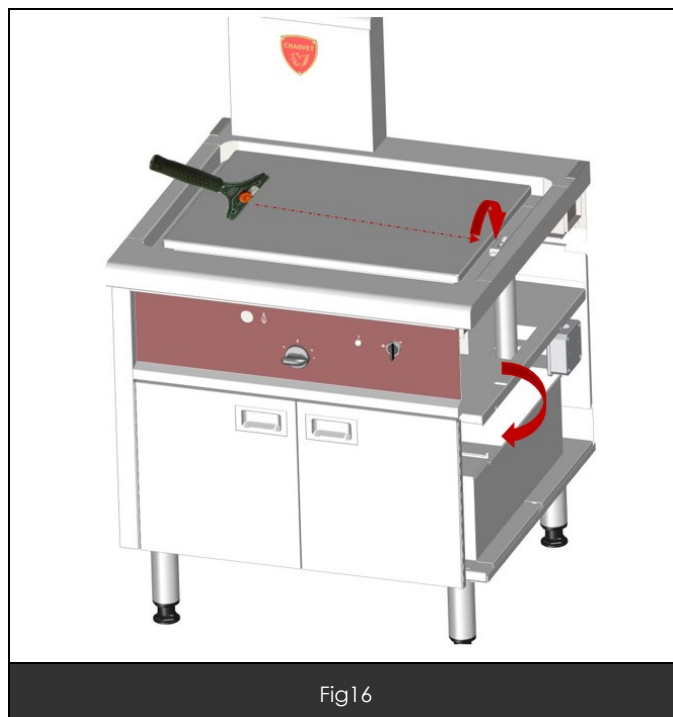

Fig16
- To scrape the steel plate, position the scraper flat as in Figure 16 below.